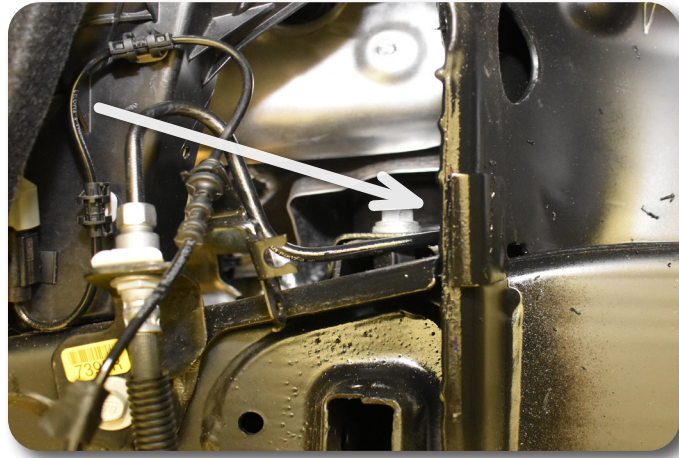

Figure 9
12. The new replacement control arm assemblies have a larger profile than the OEM assemblies. They are also designed with a wider range of available travel. Due to these unique differences, the tab on the side of the strut bucket must be removed to avoid interfering with the proper function of the new control arm assembly. Cut the tab from the side of the strut bucket as shown in Figure 9.